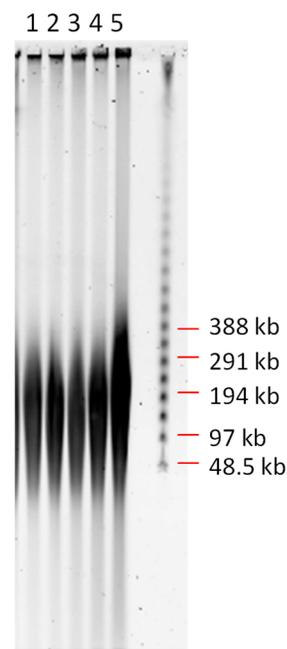

Figure 6. PFGE of replicate extractions of 2×10^6 MCF7 cells on a Nanobind disk along with a lambda ladder (Lonza).
- The size of the extracted genomic DNA can be determined using pulsed field gel electrophoresis (PFGE) (**Figure 6**). We recommend loading 200 ng of DNA per well. For analysis of 50 kb –1000 kb DNA, we recommend the following PFGE conditions: